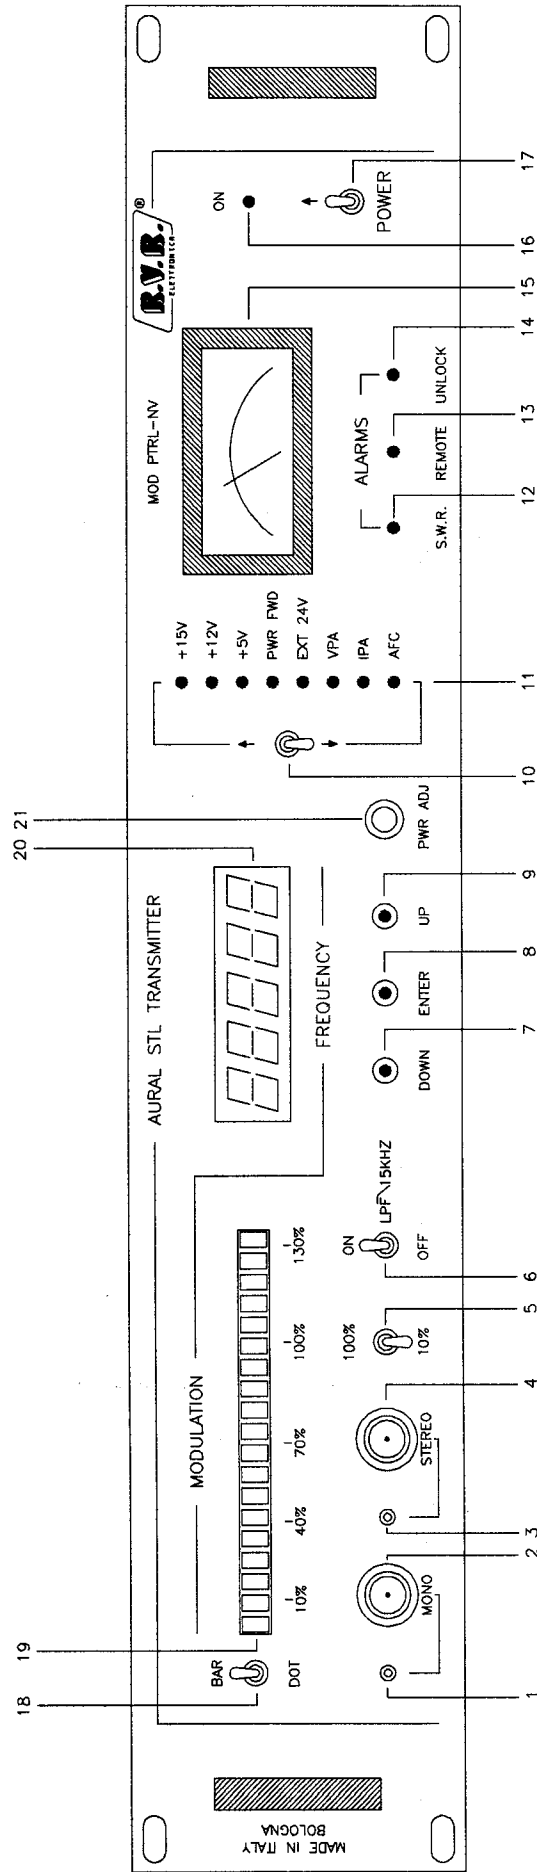

FIG. 1
### FRONT PANEL VIEW DESCRIPTION (Fig.1)
- 4) Switch the power switch (17 Fig.1) to the OFF position.
- 6) Switch the power switch to the ON position and check that the green POWER ON led (16 Fig.1), the red UNLOCK led (14 Fig.1) and the led corresponding to the parameter selection PWR/FWD (11 Fig.1), are all lit.
After a few seconds the central display (20 Fig.1) will come on and display a number (eg. 1790.0) corresponding to the last operating frequency to have been programmed. The red UNLOCK led should switch off within 30 seconds indicating that the oscillator has locked to the operating frequency displayed. The display has five digits, 4 before the decimal point representing (from left to right) thousands of MHz, hundreds of MHz, tens of MHz and MHz; and 1 after the decimal point representing hundreds of KHz. To change this number, use the UP (9 Fig.1) and DOWN (7 Fig.1) buttons to respectively increase it and decrease it. Once the desired frequency has been found, press ENTER button (8 Fig.1) to confirm and save it.